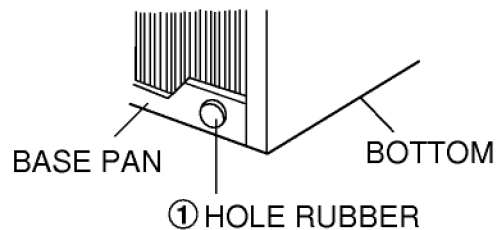
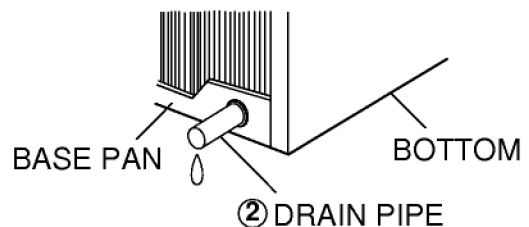

Figure 23
Figure 24
The air conditioner must be installed level or tilted slightly to the outside for proper water drainage. On exceptionally hot and humid days the air conditioner may drain condensation water through overflow. If the air conditioner is used in hot and a high humidity zone, exchange the ① HOLE RUBBER for the ② DRAIN PIPE. (See figure 23, figure 24)